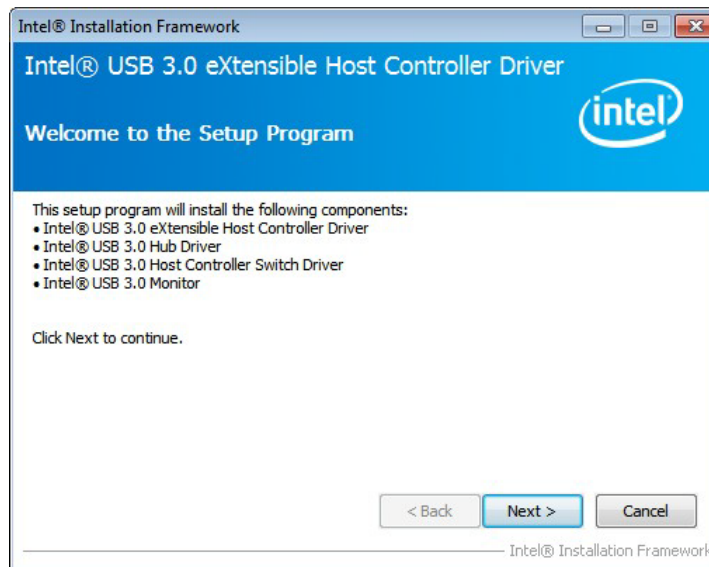

Figure 6-27: USB 3.0 Driver Welcome Screen
- Step 4:** The **Welcome Screen** in **Figure 6-27** appears.